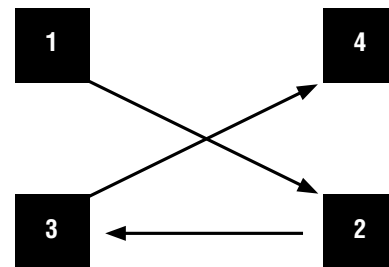

Figure 1: Flange bolt tightening sequence
3. When installing flange bolts, always tighten bolts in a sequential pattern, shown in Fig. 1. Bolts should be tightened to the appropriate torque, as specified by SAE for the bolting material used.